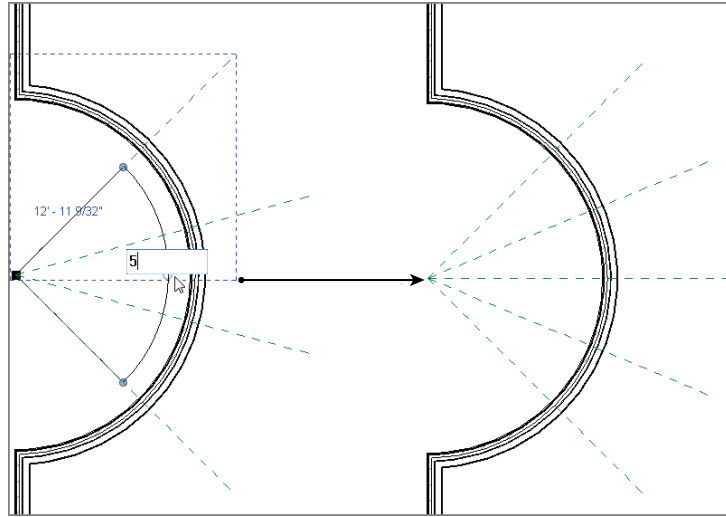

FIGURE 4.16: You can control the number of items in an array group after you create the array.
17. You now have five reference planes, as shown in Figure 4.16.